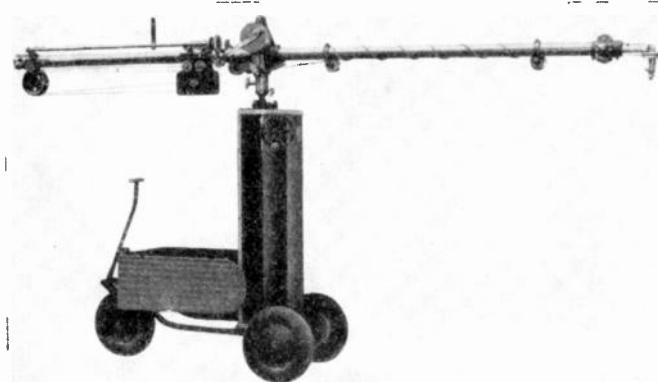

Fig. 19-15. Mole-Richardson microphone boom.
The Mole-Richardson boom (Fig. 19-15) is capable of several simultaneous adjustments, including the extension of the boom arm. The adjustments are: (1) panning of the boom arm (360 degrees); (2) tilting of boom arm (45 degrees above horizontal to 45 degrees below horizontal); (3) extension of mike boom (from a minimum length of 7 feet $4\frac{1}{2}$ inches to an extended length of 17 feet); (4) rotation of microphone at end of boom arm. Whereas these adjustments can all be made simultaneously by one operator, a fifth adjustment, height of central column, can be made before the boom is in use. The boom may rest horizontally at a minimum height of 6 feet 5 inches, or the central column may be raised so that the
The sides of the operating platform, shown in Fig. 19-15 folded down, will open up flat, and the operator stands on the right-hand side of the boom. His right hand operates the crank which extends or retracts the boom. His left hand holds a handle (shown projecting straight up) which, when he pulls it down, rotates the microphone. Panning and tilting of the boom are also controlled with this hand, by direct effort instead of a twisting movement. All controls can be locked by large-handled setscrews, so that when the boom is being moved and there is no operator at the controls, it will not swing wildly about. The microphone cable